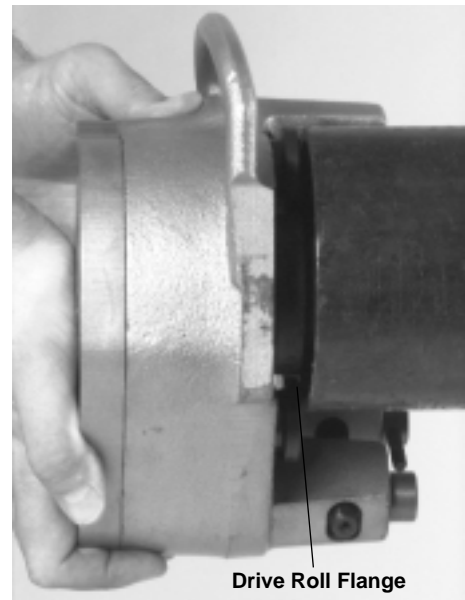

Figure 4 – Pipe Contact with Drive Roll Flange
3. Push 915 into pipe/tube until fully engaged. End of pipe should contact the drive roll flange (*Figure 4*).